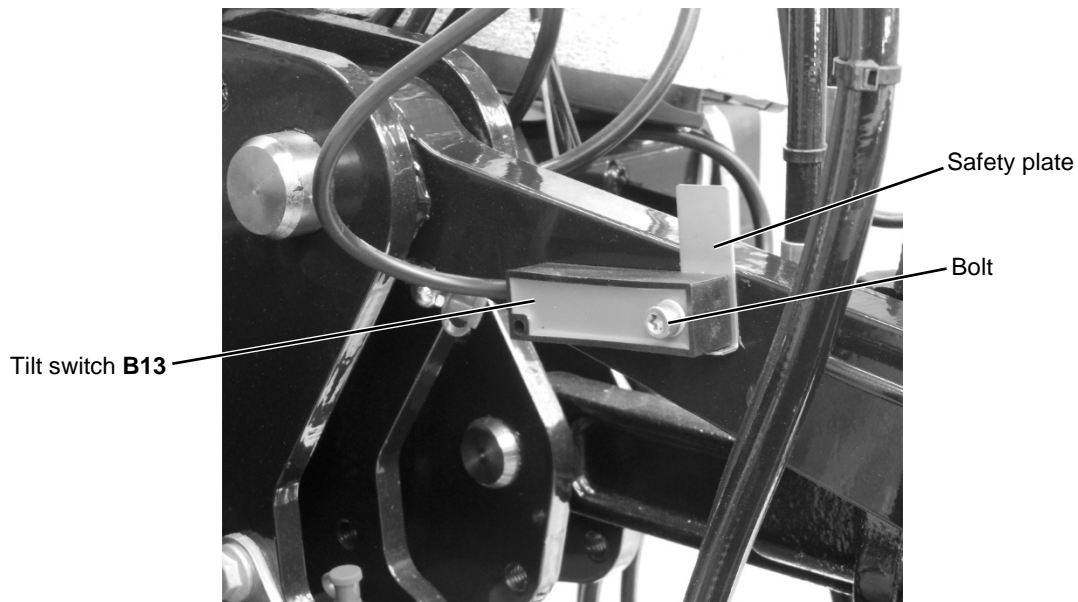

Figure 46: Tilt switch **B13** (2)
- Release the screw on tilt switch **B13** on the right control rod of the torsion frame (see Figure 46).